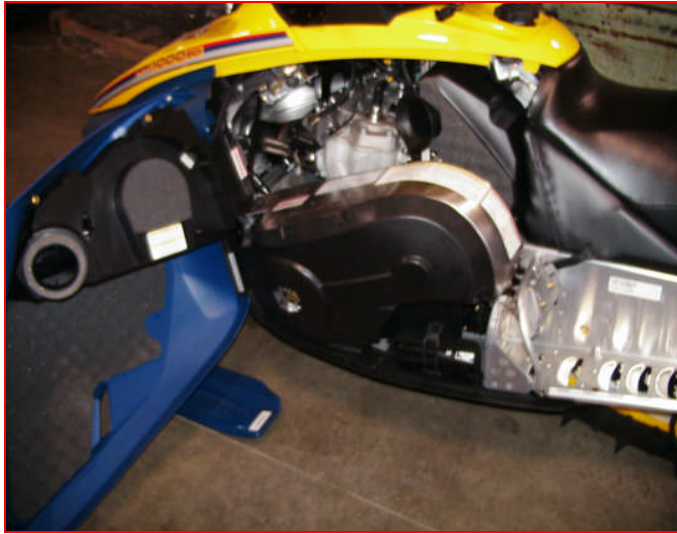

Figure 1
1. **Open clutch side body panel on the sled. (Please see figure 1).**